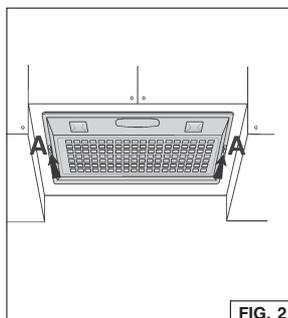

FIG. 2
1. Remove the grid by moving the 2 slide fasteners "A" forward (Fig.2).
To remove the grease filter: remove the grid by moving the 2 slide fasteners "A" (Fig. 2); remove the metal wires and then the grease filter (Fig. 9).